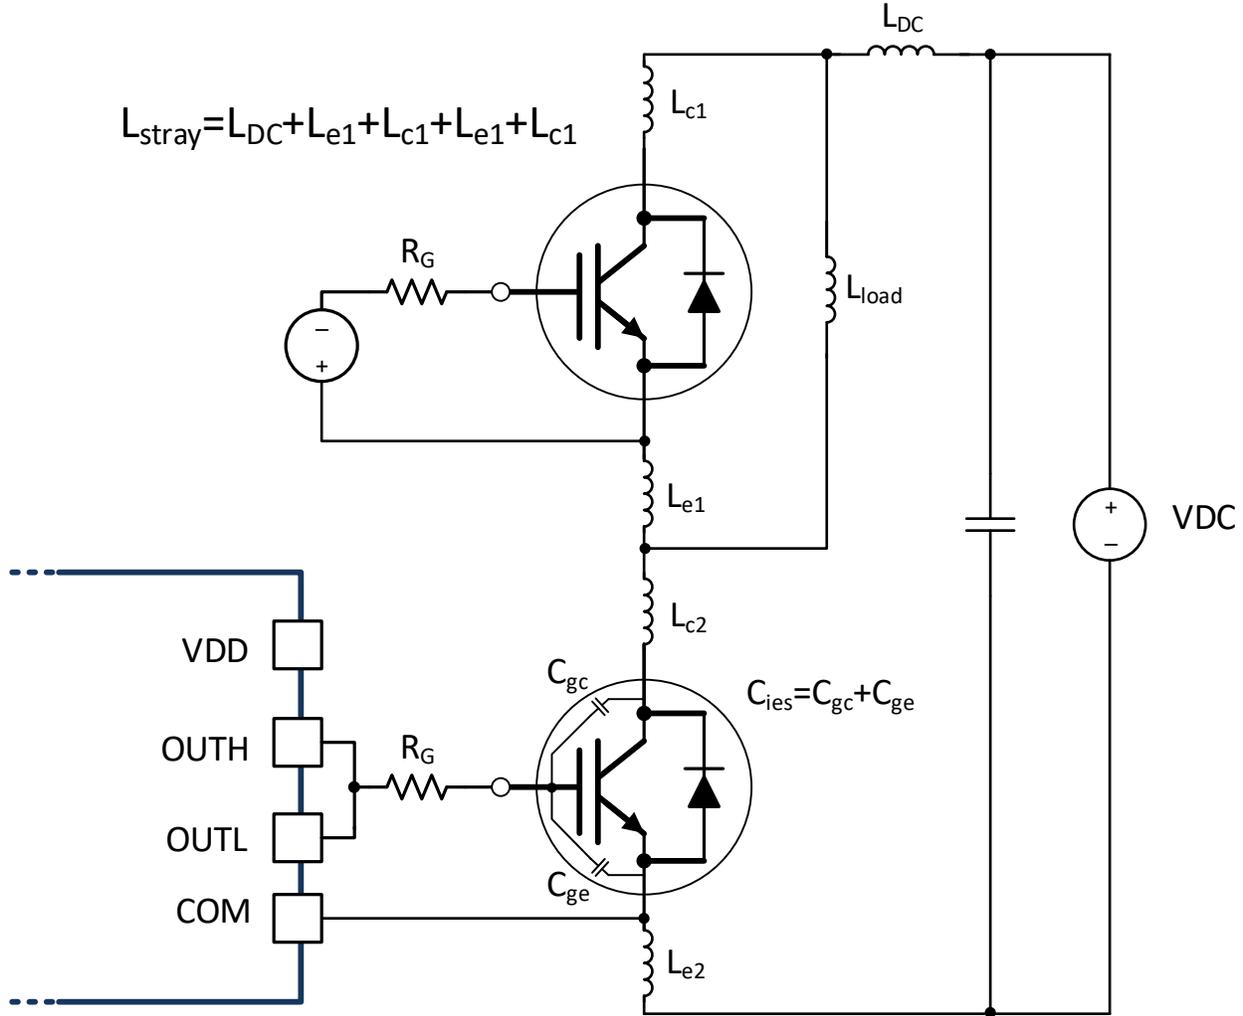

Figure 8-6. Stray Parasitic Inductance of IGBTs in a Half-Bridge Configuration
- $L_{\text{stray}}$  is the stray inductance in power switching loop, as shown in Figure 8-6